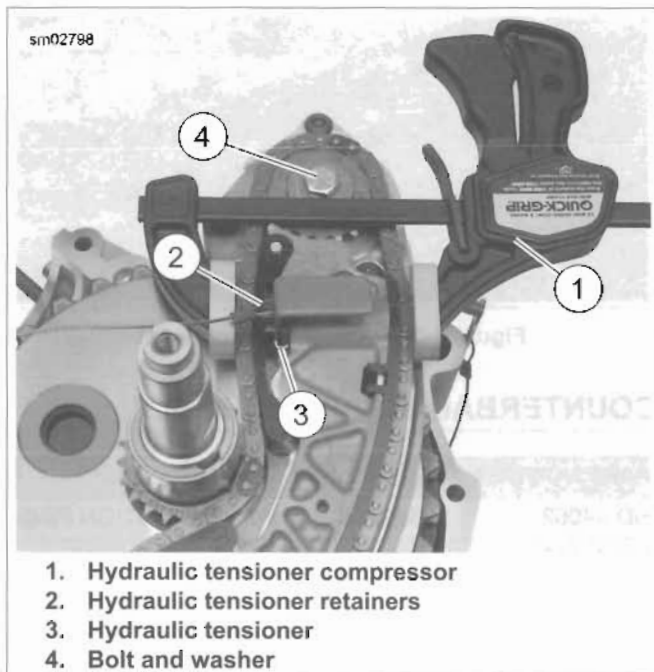
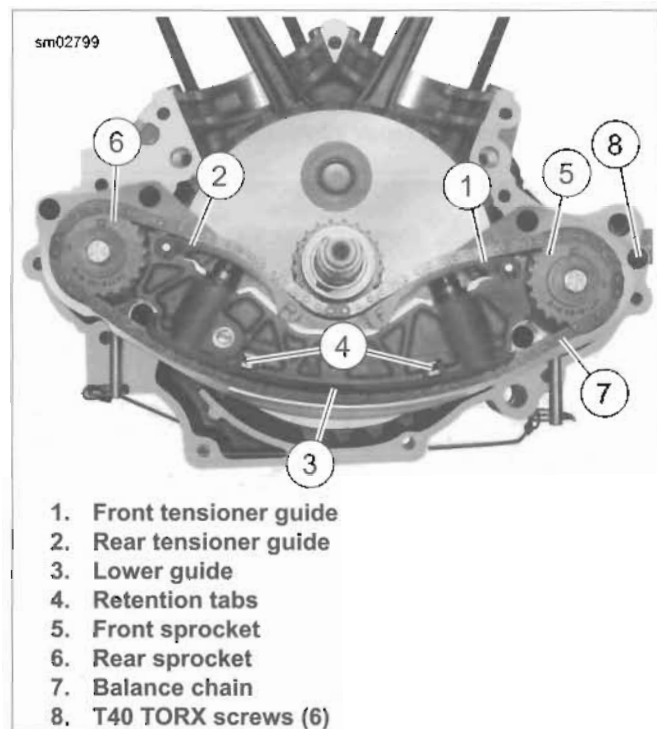

Figure 3-126. Hydraulic Tensioner Tools (Front Tensioner Shown)
Figure 3-127. Chain Tensioner Guides
3. See Figure 3-126. Compress hydraulic tensioners using HYDRAULIC TENSIONER COMPRESSOR (Part No. HD-44063) (1). Slide HYDRAULIC TENSIONER RETAINERS (Part No. HD-44408) over lip of tensioner (3) and release tool.
4. Loosen the bolts (4) on the front and rear balance shafts.
5. See Figure 3-127. Pry tabs on front and rear tensioner guides (1, 2) clear of locking post and remove guides. Use a small screwdriver to pry guide upward from locking post.
6. Release retention tabs and pry lower chain tensioner guide (3) away from chain guide bracket assembly.
7. See Figure 3-126. Remove bolts and washers (4) on the front and rear balance shafts.
8. See Figure 3-127. Remove front (5) and rear (6) sprockets and balance chain (7). Remove spacers from balance shafts.
9. Remove six screws (8).